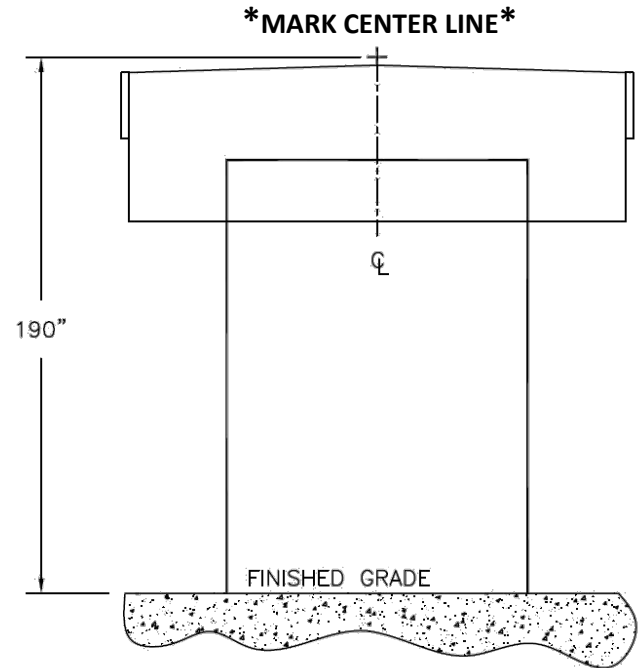

FIG. 1
- ii. Mark centerline on lintel above door (**Fig. 1**).